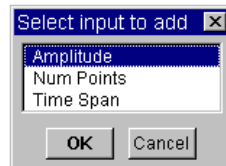

Figure 1-37. Example: Adding Input Terminals
1. Click on the object menu or press **Ctrl+A** with the mouse pointer in the “terminal area” at the left side of the `Noise Generator`. The dialog box appears for you to add an input, as shown in Figure 1-37.